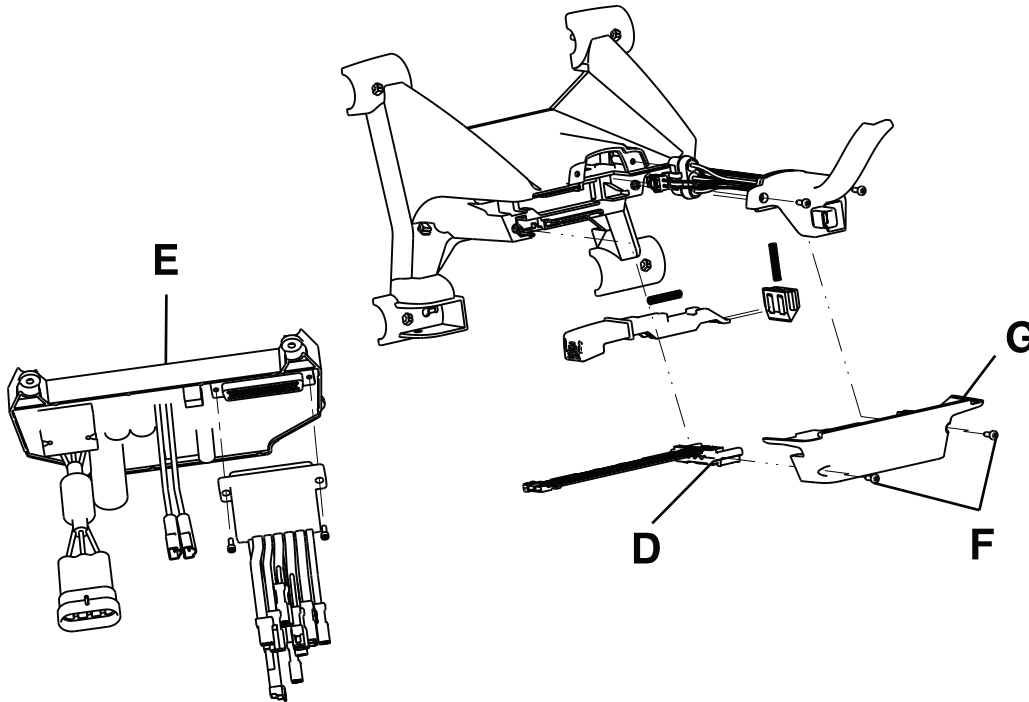

Figure 23: Control board and cot connector cable assembly
- Using a T20 Torx driver, remove the two delta screws (F) from the bottom plate of the foot end enclosure (G) to remove the enclosure. (Figure 23 on page 55). Save all parts for reinstallation.